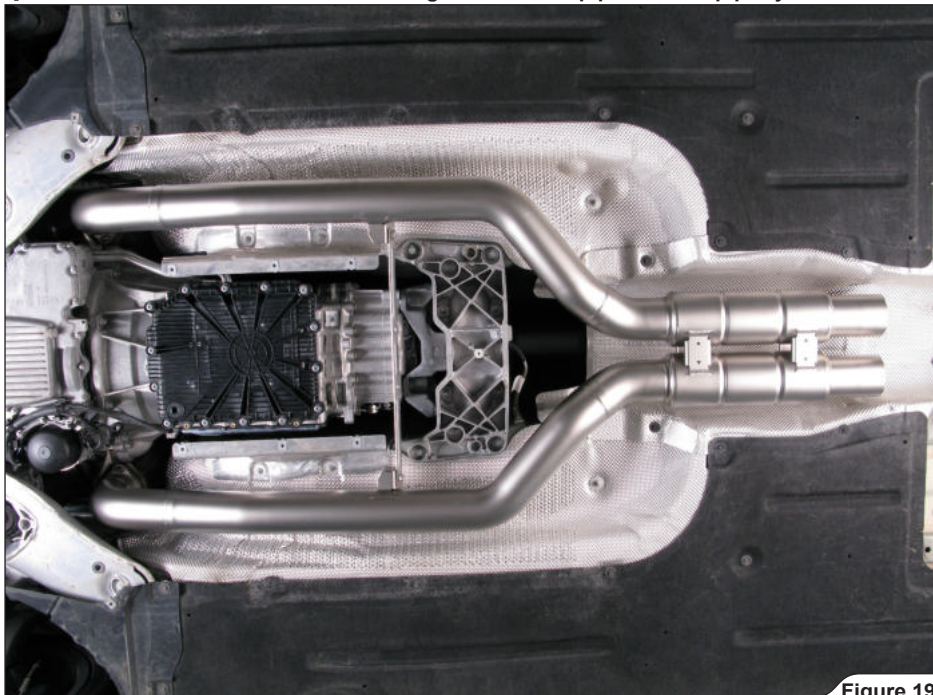

Figure 19
- Carefully attach the Akrapovič link pipes onto the stock down pipes, using stock nuts (**Figure 19, 20**).